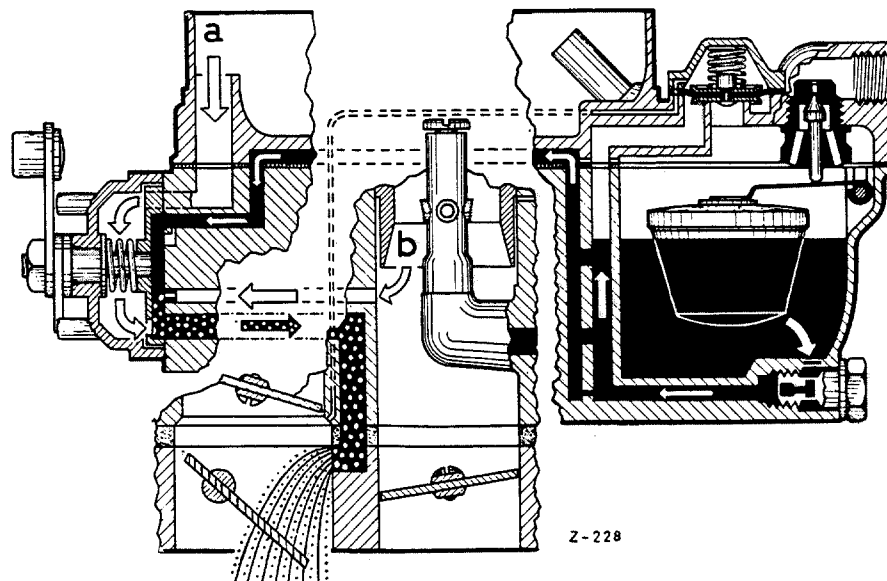

Fig. M 31 S/08
The partial vacuum obtaining in the suction tube exerts an influence on the starter system (Fig. M 31 S/07), via the gaps at the side of the vacuum valve and the start mixture canal (14). As a result of the partial vacuum, fuel is drawn up from the float chamber via the starter fuel jet Gs (12) into the canal (4). Air enters through the notch (8) in the carburetor cover which connects up with the float chamber. Thus there is already a kind of pre-mixture present in the canal (4) leading to the starter rotary slide valve. Furthermore, the notch is designed above all to prevent fuel from being drawn up by the siphon effect when the starter is not switched on and the starter rotary slide valve is not quite gas-tight. The pre-mixture enters the chamber (19) of the starter rotary slide valve through the graded bore (2). At the same time, air is drawn from the suction canal of Stage 1 into the chamber (18) of the rotary slide valve via the canal (5) (with the graded bore [16]). This air combines with the pre-mixture in the mixing chamber (20). From the mixing chamber (20), this pre-mixture, with air added, passes into the cavity (21). There is a further supply of air which comes from the air canal (3) via the graded bore (15) of this cavity which acts as a starter air jet. The pre-mixture, which with this additional air has now become a rich starting mixture, passes via the orifice (23) into the starting mixture canal (14). The fuel flow for this first phase — when starting the engine — is shown in Fig. M 31 S/08.